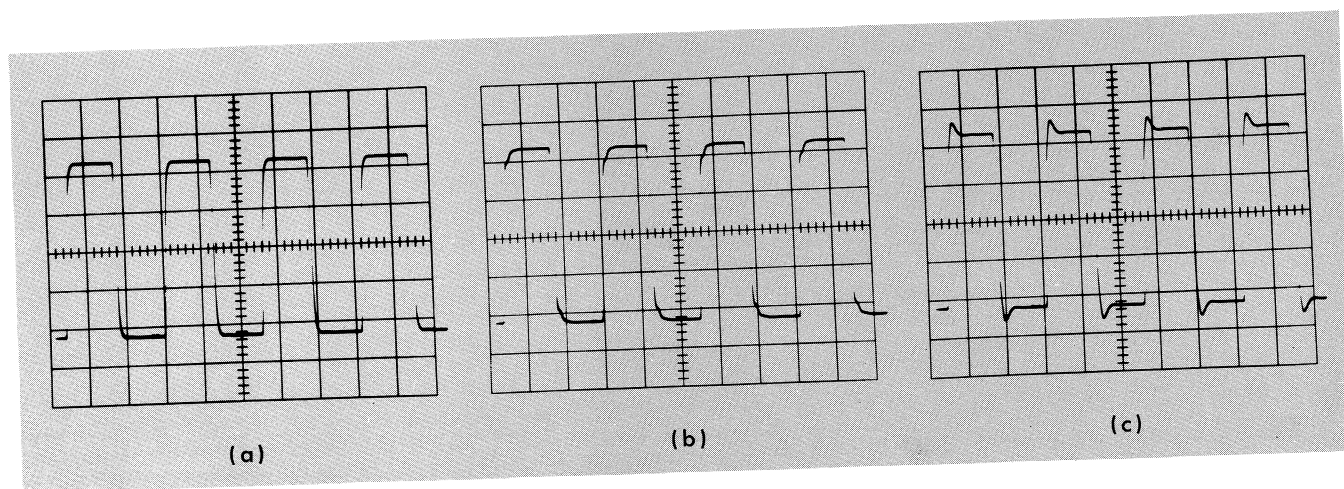

Fig. 9. Amplifier frequency compensation. (a) L451 and L551 properly set; (b) and (c), L451 and L551 improperly set.
6. Alternately adjust L451 and L551 in equal increments until the most evenly rounded leading corners on the square-wave are obtained (see Fig 9). L451 and L551 both will probably need to be turned about six complete clockwise turns before the proper display is obtained; both slugs should be at very nearly the same depth at the conclusion of this step.
13. The displayed waveform on the oscilloscope screen should be a square wave with slightly rounded leading corners. If they are a bit underpeaked or overpeaked, adjust L451 and L551 in small and equal increments for the most evenly rounded leading corners; see Fig. 9(a). Very little adjustment, if any, of L451 and L551 should be necessary.